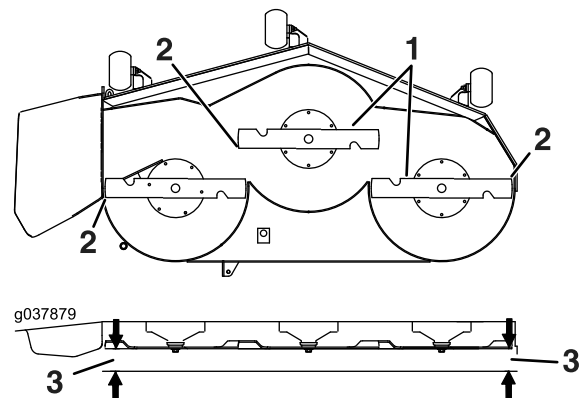

Figure 106
6. Measure between the blade tip and the flat surface (Figure 106). If both measurements are not within 5 mm (3/16 inch), adjust the leveling; continue with this procedure.
14. Carefully rotate the blades side to side (Figure 106).